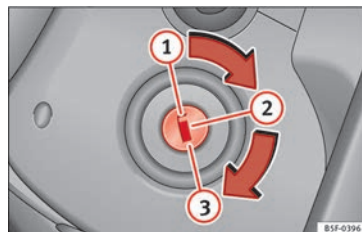

Fig. 186 Ignition key positions.
»» Fig. 186.
- Remove the key from the ignition in position ① »» Fig. 186 »» ⚠.